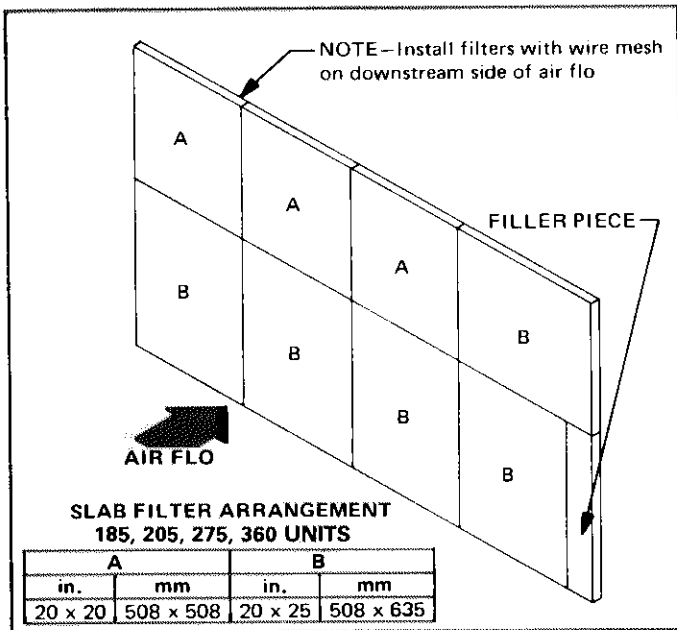
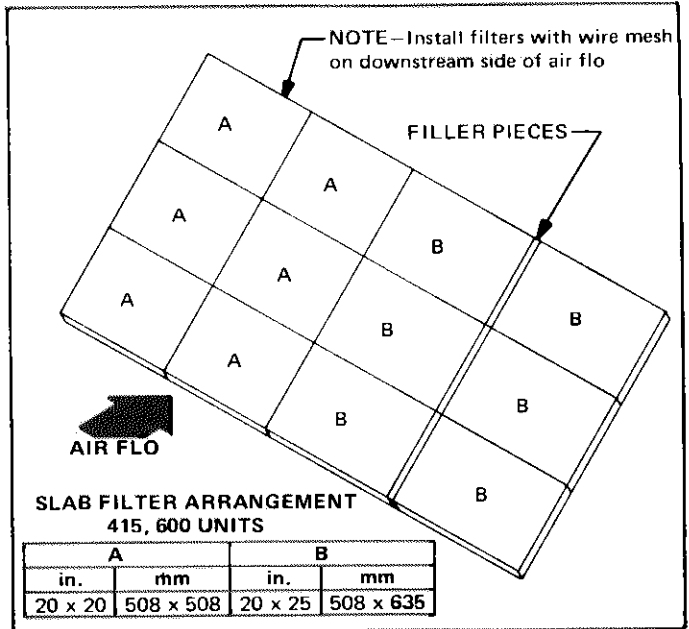

FIGURE 123
FIGURE 124
- 3 - Replace filters in unit noting arrangement and air flow direction. Refer to Figure 123(185, 275, 300, 360) or Figure 124(415, 600). Slide filters in on track, pulling chain and bracket in place.